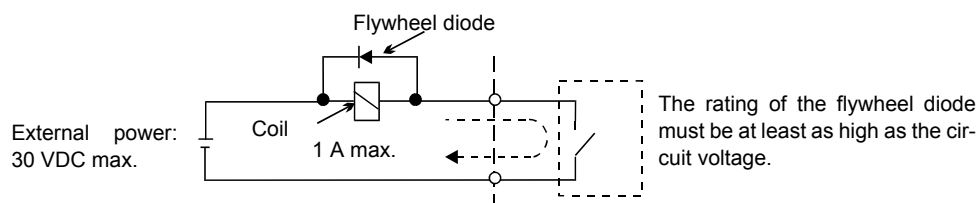

Fig 2.12 Flywheel Diode Connection
- * 4. When driving a reactive load, such as a relay coil with DC power supply, always insert a flywheel diode as shown in Fig 2.12.